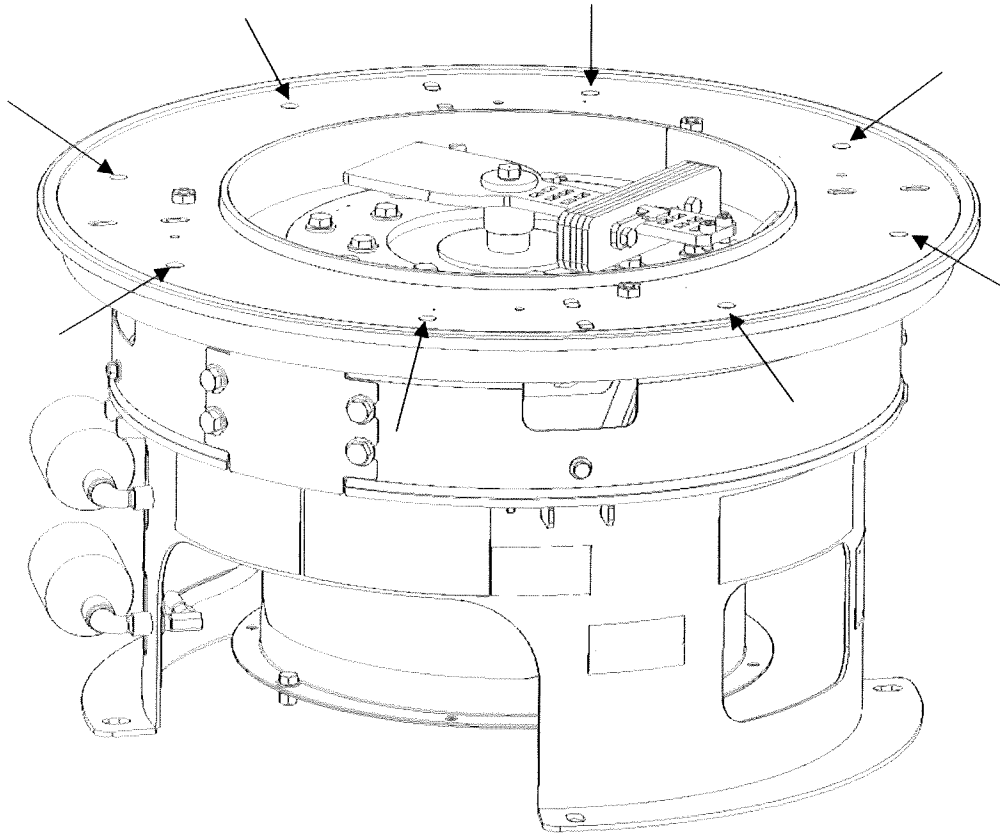

Figure 5 Outer Holes on Lower Table (Arrowed)
4. Insert the appropriately sized hoist ring into three of the outer holes on the lower table (Figure 5).